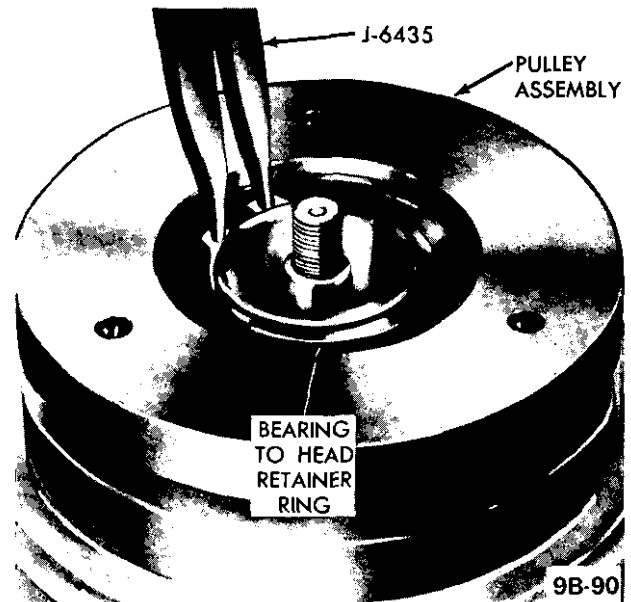

Figure 9B-116 Removing or Installing Bearing to Head Retainer Ring
3. Place puller pilot (J-9395) on hub of front head and take off pulley assembly (see Figure 9B-117), using pulley puller (J-8433).